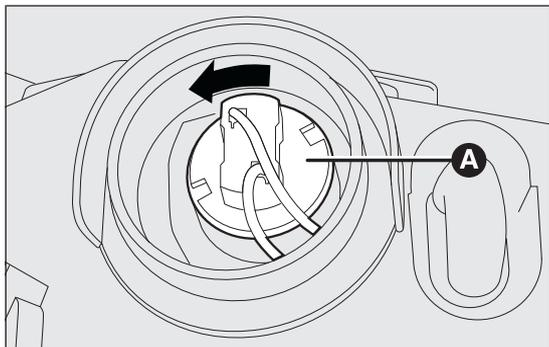

fig. 111
- turn the bulb holder A fig. 111 anticlockwise and remove it;